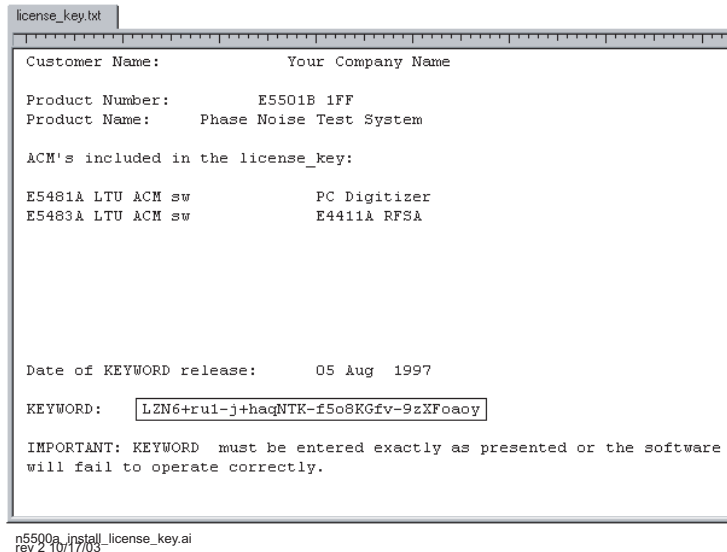

Figure 334 License_key.txt
- b Using Notepad, load **License_key.txt**. See Figure 334 on page 441.